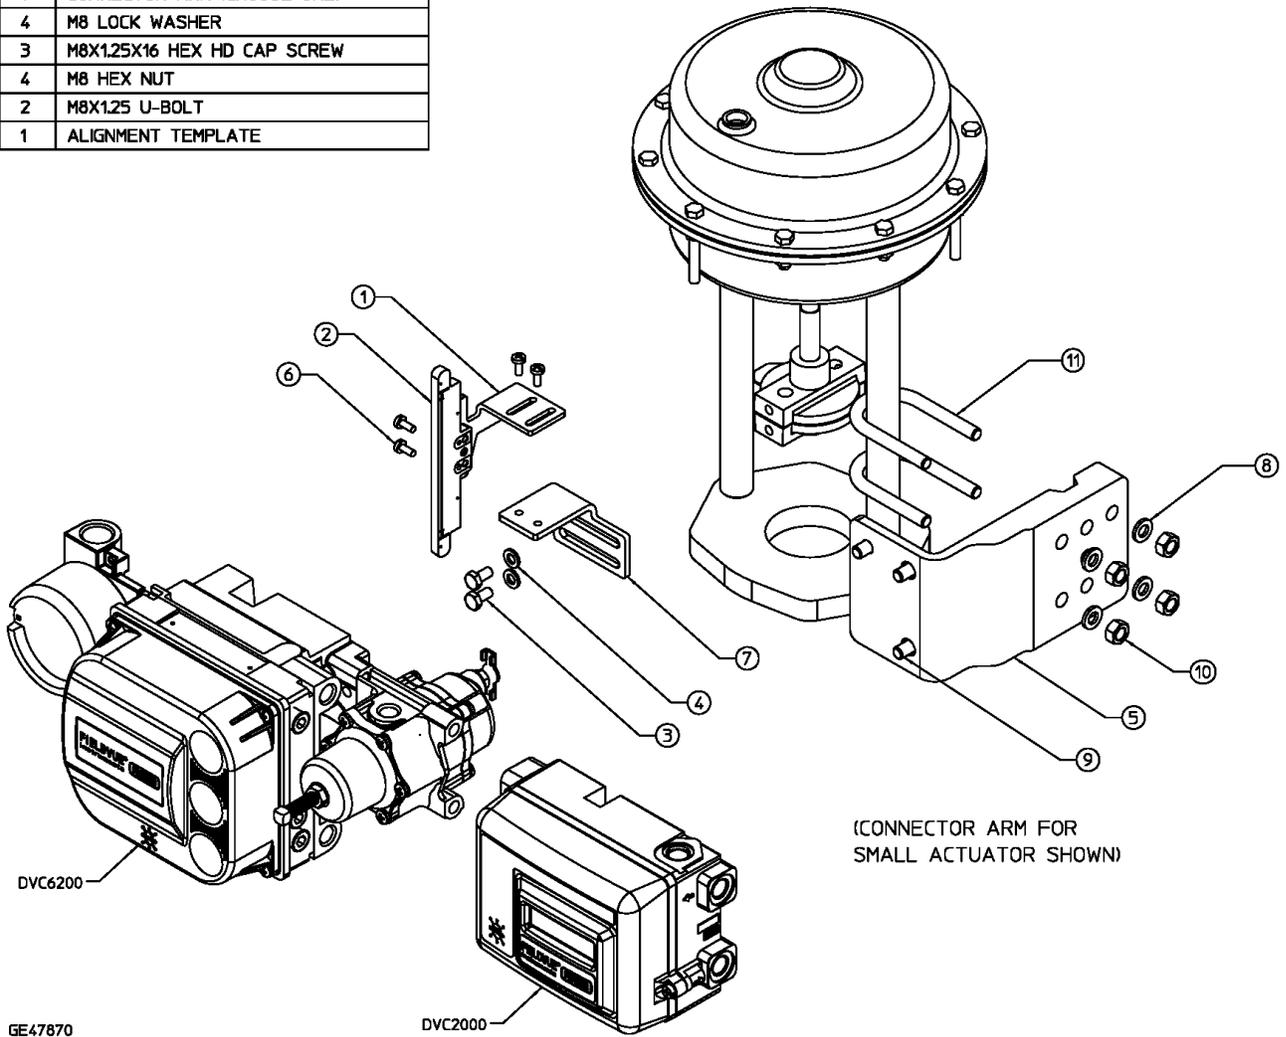

Figure 3. Mounting Parts Identification for Pillar Style Mounting
Refer to figures 3, 4 and 5 for mounting parts identification. Refer to the DVC6200 or DVC2000 digital valve controller instruction manual for digital controller parts identification. Refer to the appropriate actuator instruction manual for actuator installation, operation, maintenance, and parts identification.
the actuator being used (figures 3, 4 and 5 show the size for small actuators).
Attach the connector arm (key 7) to the stem connector using the two hex head cap screws (key 3) and plain washers (key 4), but do not tighten (see figures 3, 4 and 5).
4. Attach the mounting bracket (key 5) to the yoke leg using the appropriate hardware for the actuator mounting style.
a. Figure 3 shows pillar style mounting. For rough alignment of pillar style actuators, center the primary hole in the bracket with the approximate mid-travel position of the stem connector. Visually square up the bracket relative to the actuator yoke legs, then tighten the fasteners.